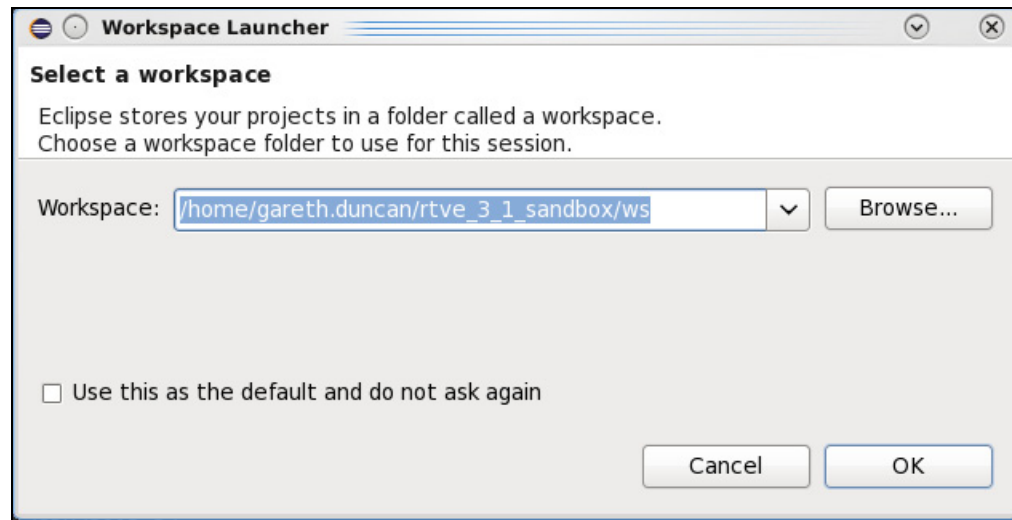

Figure 25: Eclipse Workspace launcher
c. In the Workspace field type /home/<user name>/rtve_3_1_sandbox/ws as shown in Figure 25.